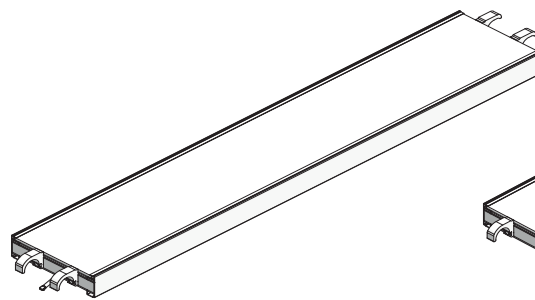

Fig. 7.2
- 170/30 and 220/30 (Fig. 7.2)